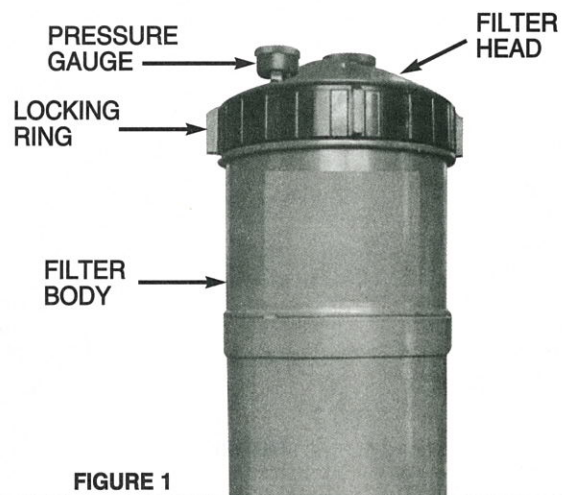

FIGURE 1
2. Remove filter head by turning Locking Ring counter clockwise Figure 1. Remove clamp by lifting straight up over tank.
9. Attach pressure gauge and air release valve as shown in Figure 1. Apply Teflon tape to threads of pressure gauge.